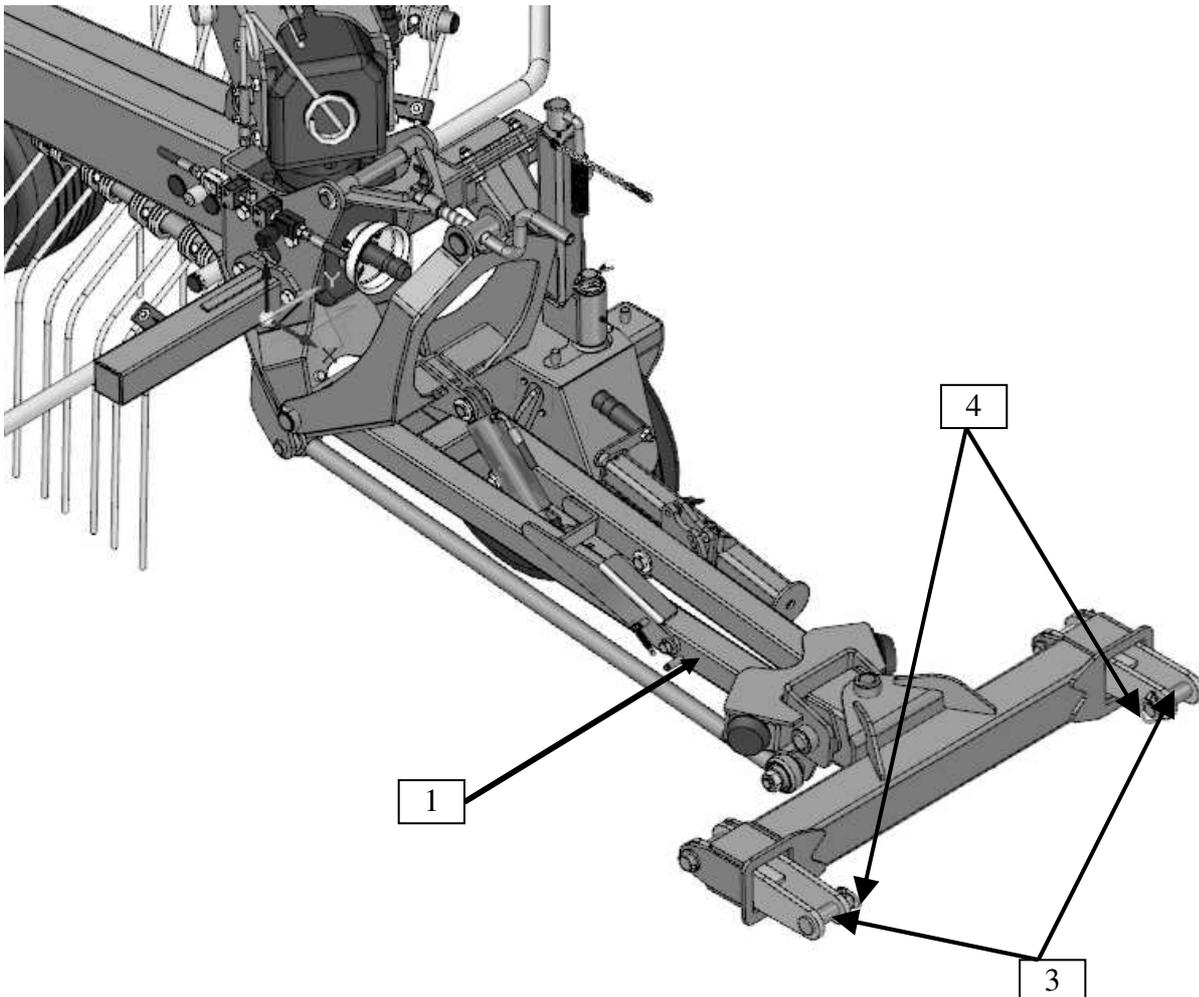

Fig. 8. Connecting the rake to a tractor
Rakes **DUO 680 and 740** are adjusted to be attached to tractors by means of drawbar (1). Connect the rake to tractor's links with pins (3) and protect them with cotters (4) (**Fig. 8**).